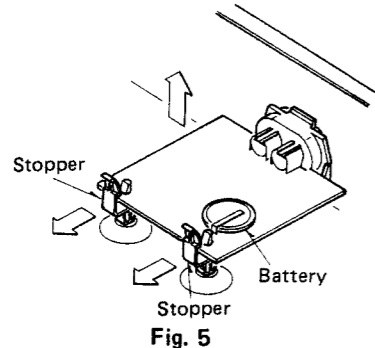

Fig. 5
2. Release the 2 claws of the stoppers. [Fig. 5]